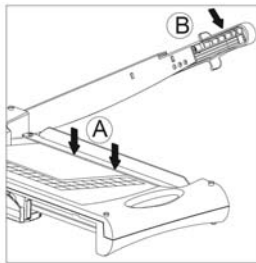

Fig. 2
- 4 Place the material to be cut in the required position under the pressing rail and press the pressing rail down (Fig. 2, A).
- 5 Move the guillotine arm down to complete the cut (Fig. 2, B).